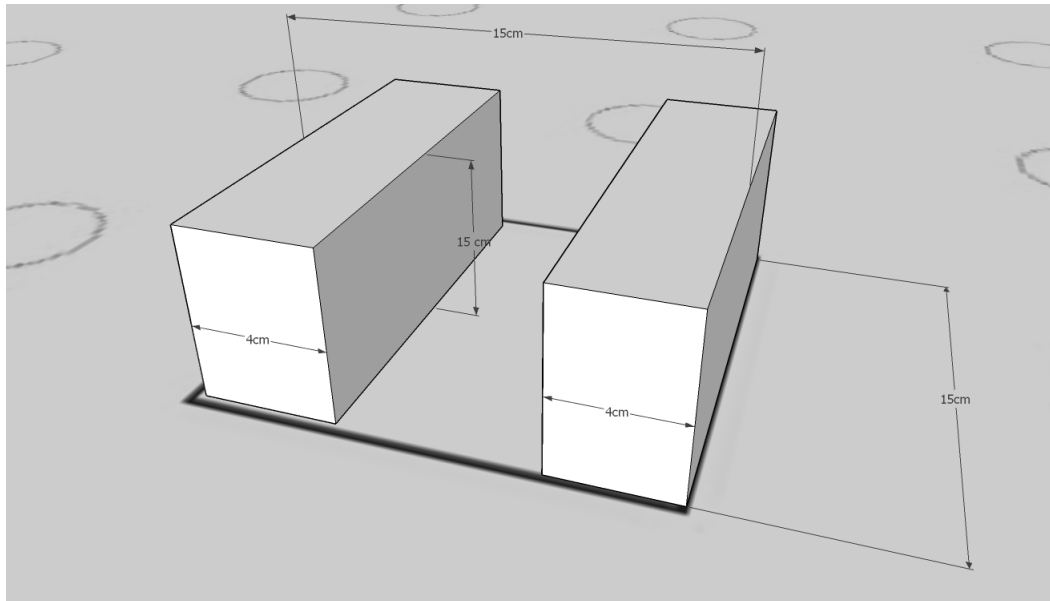

Figure 5. Beehive Dimensions
- Beehive has a minimum height of 15 cm and maximum height of 25 cm. Refer Figure 5.